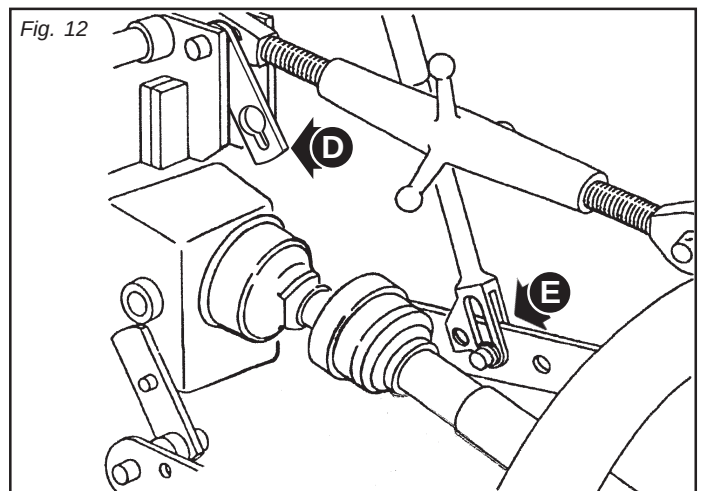

Fig. 12
- 2) Position the plate (D, Fig. 12) to the left of the tie-rod, integral on the same pin. These parts are used for attaching the spring-type shock absorber (Fig. 14).
The 2 lower tie-rods of the three-point hook up must be equipped with a slotted hole allowing at least 5 cm of travel and be in a floating position (Fig. 12). Failure to observe this provision could lead to the tractor exerting heavy stress on the mower frame because the front axle of the tractor is articulated and follows the irregularities of the ground independently of the rest of the tractor, and hence also of the three-point hook up. For this reason in the event of damage resulting from failure to observe the above, MA-SCHIO GASPARDINO S.p.A. declines all responsibility, even if the damage occurs while the mower is still under guarantee.